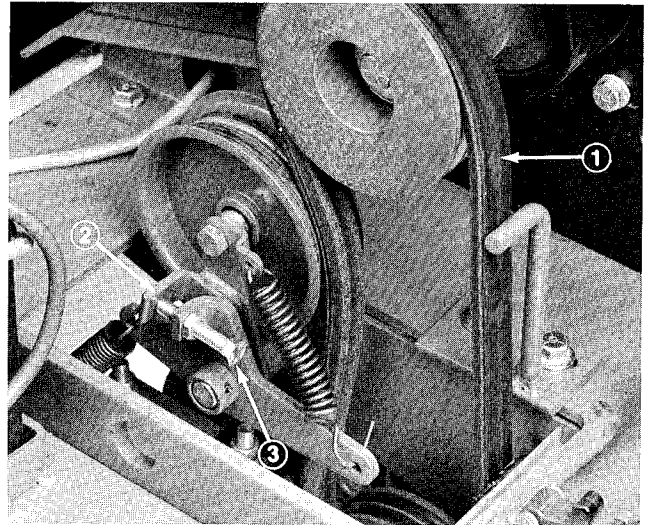

Figure 40
2. The transaxle belt (Fig. 40) is properly adjusted when there is a gap of $1/4$ " between drive take up bracket and end of step bolt, when clutch is engaged.